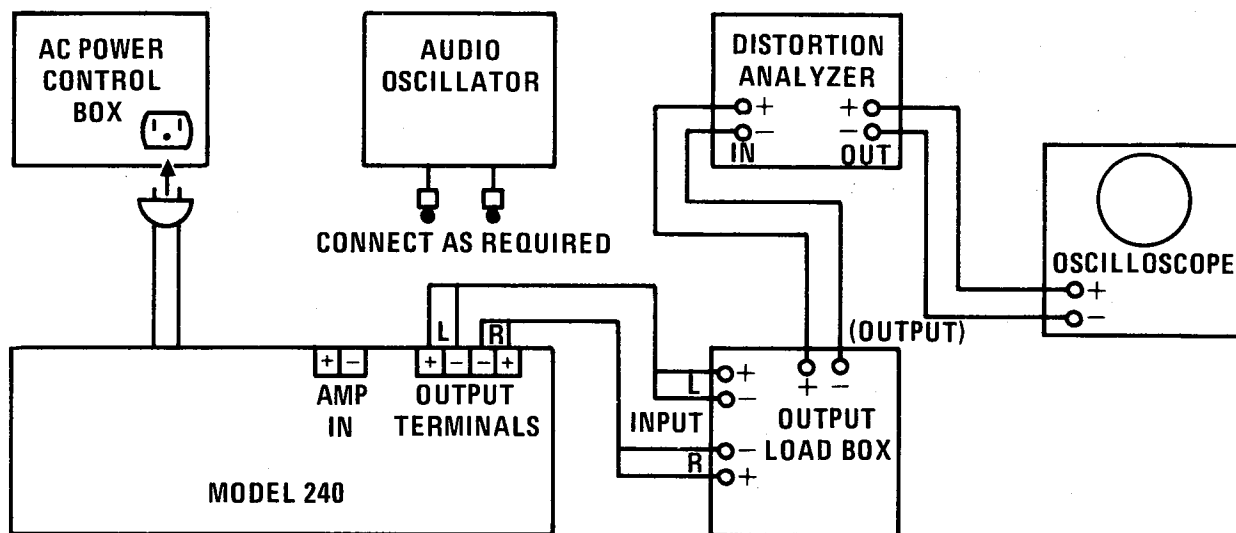

FIGURE 5. TEST EQUIPMENT SET-UP
Above items are assembled per Figure 5 or as directed in Test or Alignment Procedures
1. All tests are performed with the unit under test and the test equipment connected as shown in Figure 5. Except for the IDLING POWER test, all tests are conducted with 120 vac line voltage applied to unit. Unless otherwise speci-